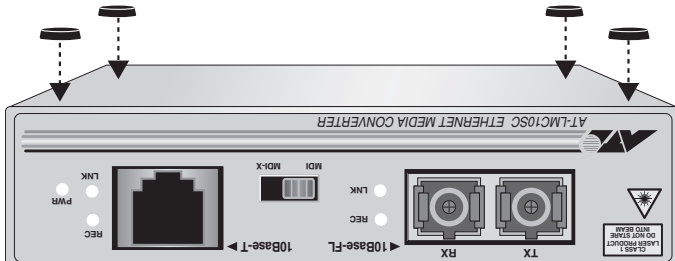

Figure 6 Attaching the Protective Feet
4. Attach the four protective rubber feet to the bottom of the media converter, as illustrated in Figure 6.